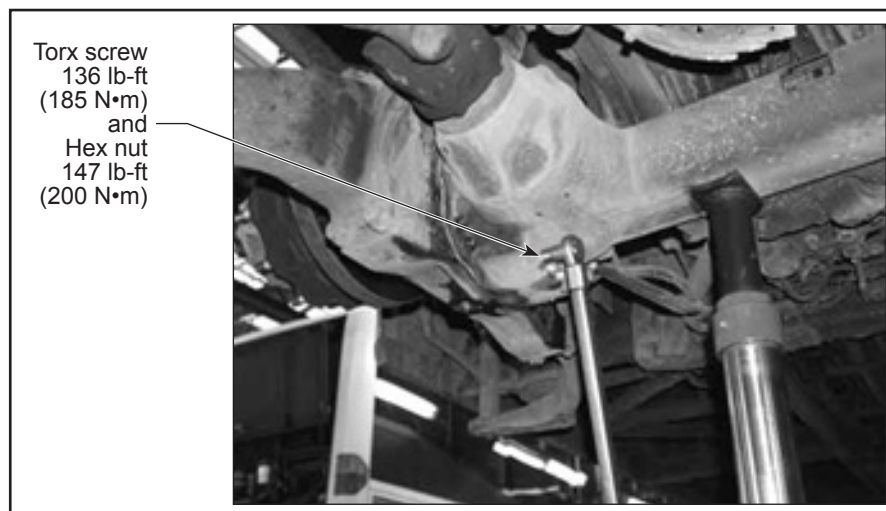

Figure 21 - Portal Drive Mounting
2.55. Secure the portal drive in place with the retained Torx screws and hex nuts. See Figure 21.